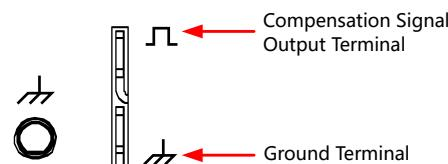

Figure 5.5 To Use the Compensation Signal
2. Connect the ground alligator clip of the probe to "Ground Terminal", as shown in *Figure 5.5* below.
3. Use the probe to connect the input terminal of CH1 of the oscilloscope and the "Compensation Signal Output Terminal" of the probe, as shown in Figure 5.5.